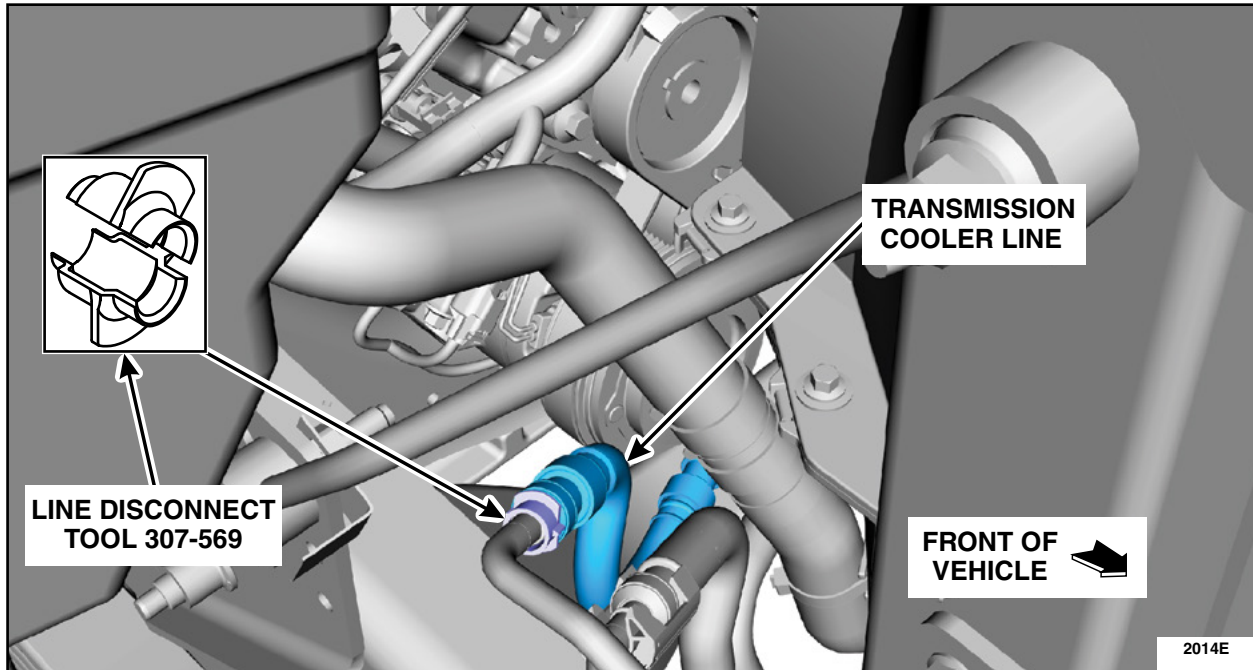

FIGURE 6
7. Disconnect, remove and discard the transmission cooler line using special tool 307-569. See Figure 6.